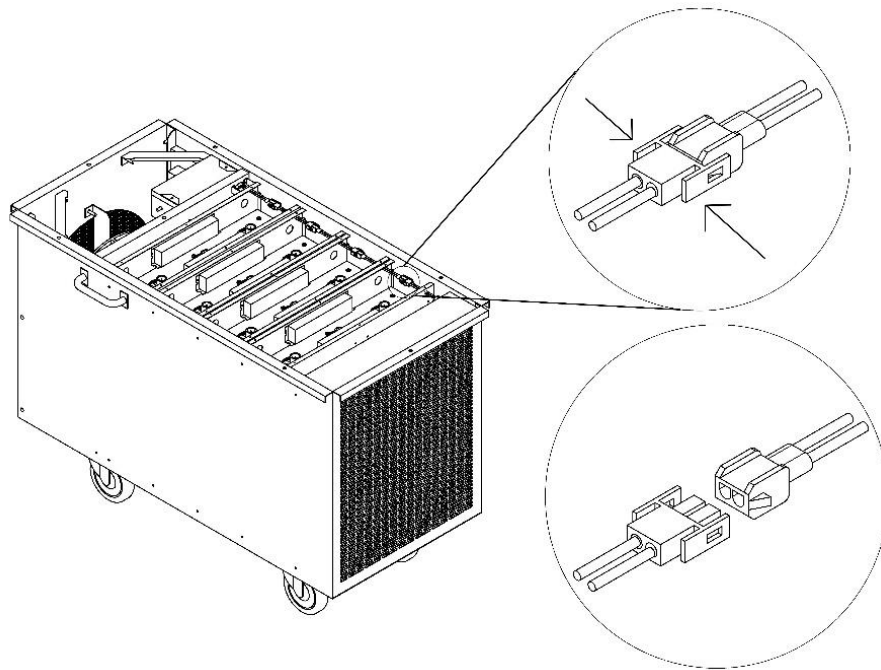

Figure 12
3.) Disconnect 2 pin MOLEX connector providing power to Catalyst Panel. See Figure 12.
13.) Reconnect 2 pin MOLEX connectors providing power to catalyst panel. See Figure 12.
3.) Disconnect 2 pin MOLEX connector providing power to catalyst panel. See Figure 12.
11.) Reconnect 2 pin MOLEX connector providing power to catalyst panel. See Figure 12.